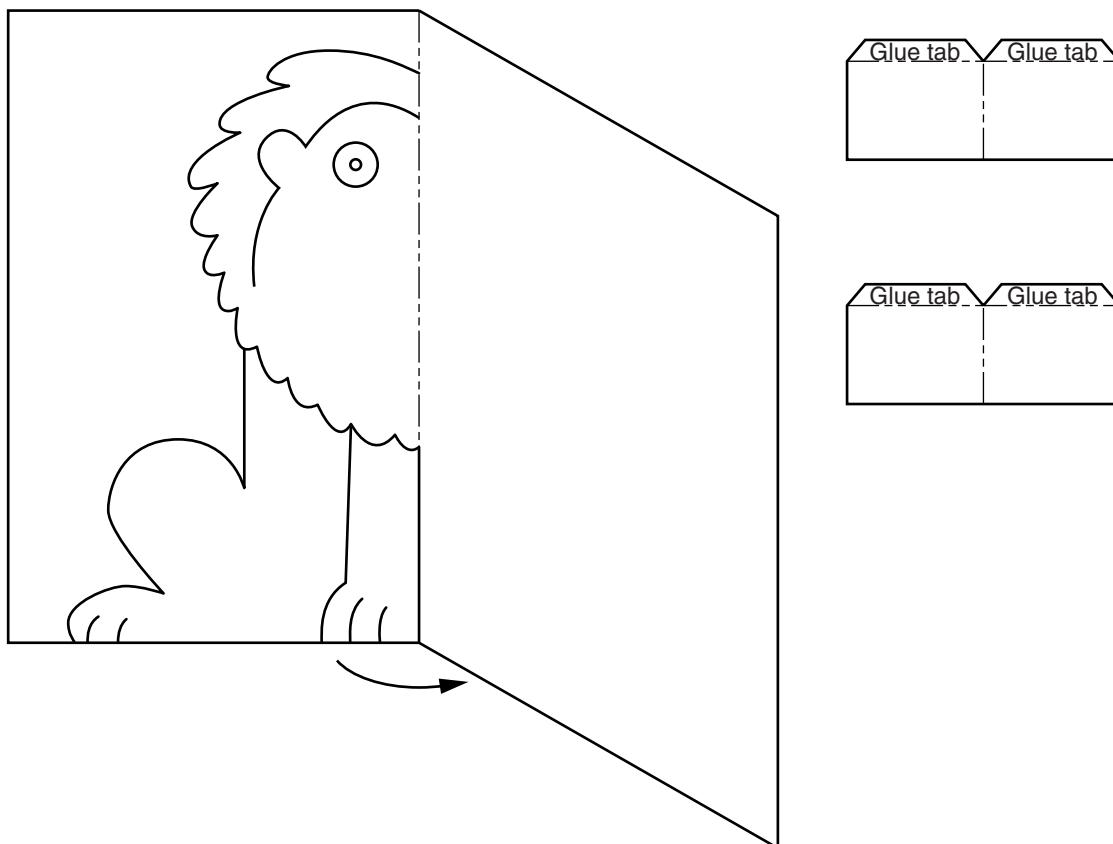

Fig. 3
- 3 Fig. 3 shows the three incomplete parts required to make a pop-up card with a V-fold. The two smaller pieces of card are glued onto the head of the lion to form a mouth. When the mouth is opened the mouth of the lion closes. The pop-up card will be made in a school workshop.